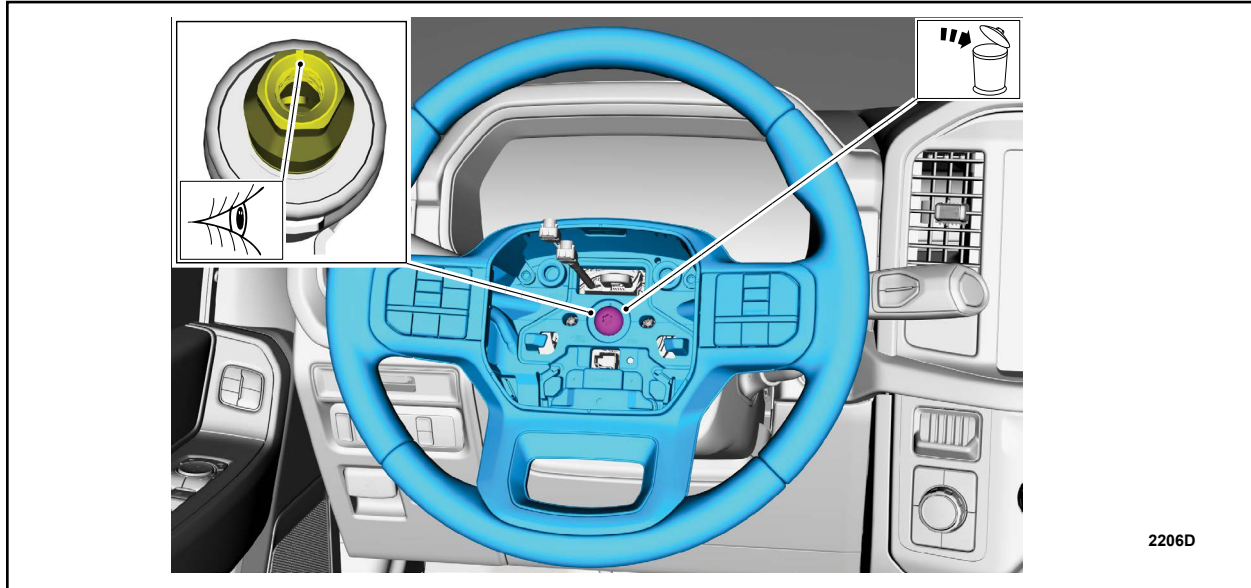

FIGURE 4
4. Remove and discard the steering wheel bolt and remove the steering wheel. See Figure 4.